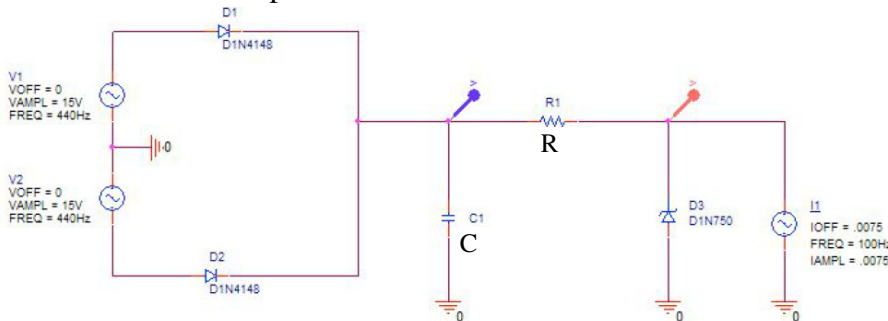

Figure 3.2. Full-Wave Diode Bridge Rectifier with Shunt Regulator
3.2. Design and simulate a filtered full wave rectifier with a shunt regulator as shown in Figure 3.2. Need to redesign R and C based on some load current data and minimum Zener diode current spec. Assume that the filter's maximum voltage ripples are as in (3.1) above. The load current may vary between 0 and 15mA. You may represent it by a ISIN source hooked up in parallel to the Zener diode – make the current go from the Zener diode node to ground with IOFF of 7.5mA, IAMPL=7.5mA and FREQ=100Hz. [Precaution: As you hook up the ISIN source representing the load current make sure that this load takes away current from the Zener diode and does not add current to the Zener diode]. The design should assure that the Zener diode's current never falls below 7mA. Choose and explain your choice of R (following the theory of Unit 14) and, once you know what R is, revise C as necessary to keep the same filter ripples as before. Then demonstrate that the specs are met.
1. The rectifier, filter and Zener voltage regulator should all be combined into a single circuit as shown in Figure 3.2. That means, for instance, that the Zener diode should be connected between the filter's resistor and ground - yes, use the same resistor for both the filter and the Zener driving! Because that resistor should allow sufficient current through the Zener diode, don't make it too large.
3. Calculate the value of the series resistor R (R1 in Figure 3.2) for the shunt regulator with the equation:
5. Simulate your filtered full wave rectifier with a shunt regulator as shown in Figure 3.2.